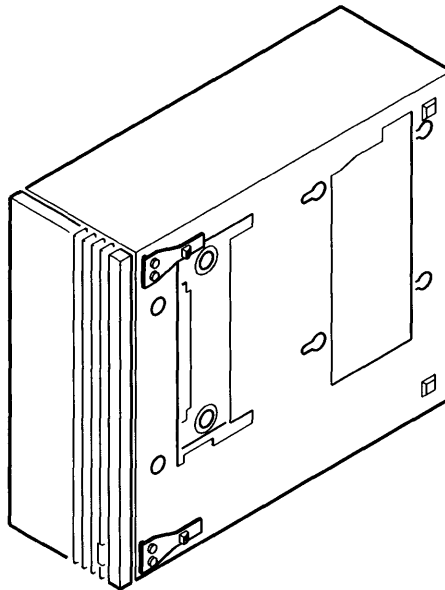

Figure 8-3.
- b. Remove the cover plate on the front bottom of the HP 98700 and place it in the parking position provided (see Figure 8-3).